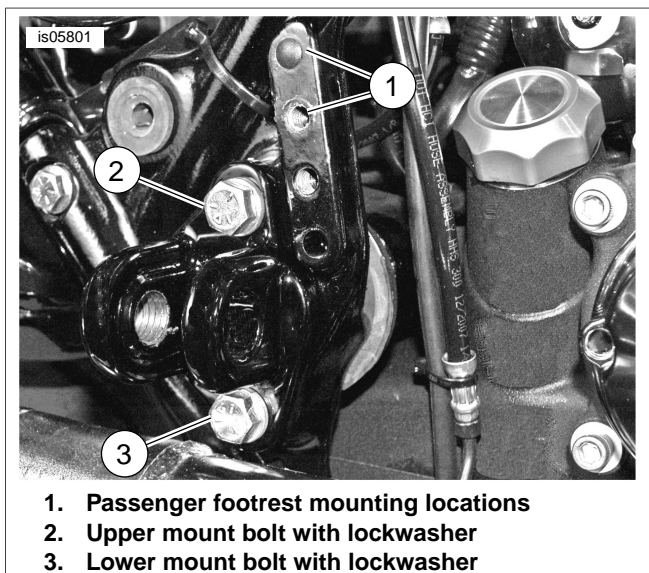

Figure 10. Install Rear Mount and Hardware
3. See Figure 10. Position the rear mount over the two mounting holes. Install upper and lower mounting bolts and washers (2 and 3) to secure mount to frame. Tighten bolts to 34-42 ft-lbs (46-57 Nm).
4. Apply Loctite 243 Threadlocker and Sealant - Blue onto passenger footrest mount bolt (removed earlier). Install bolt and washer in threaded hole (1) in upper portion of mount as shown. Tighten bolt to 30-35 ft-lbs (41-47 Nm).